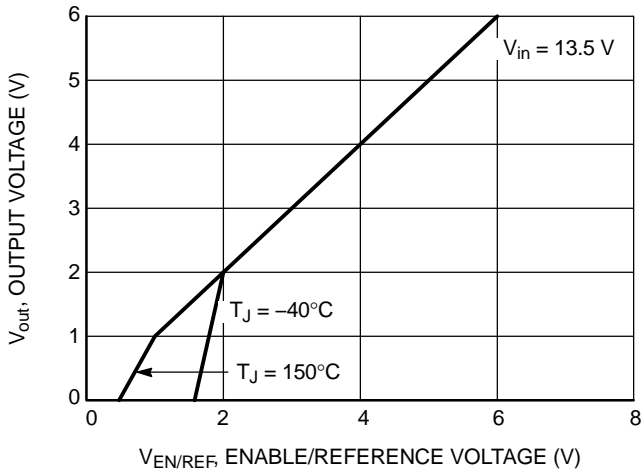
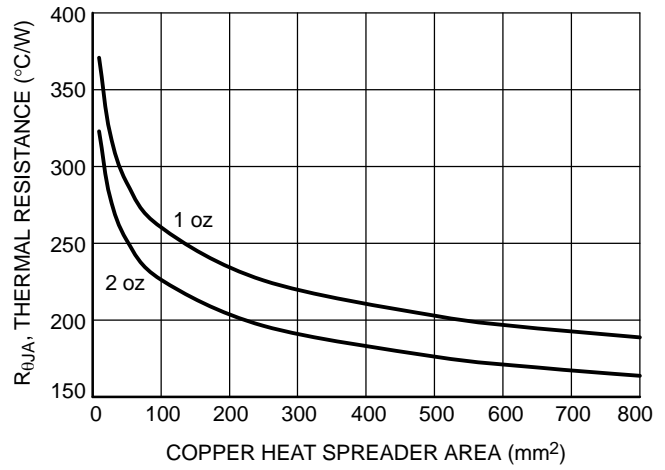

Figure 3. Output Voltage  $V_{out}$  vs. Reference Voltage  $V_{EN/REF}$
Figure 22. Thermal Resistance  $R_{\theta JA}$  vs. Copper Spreader Area
The NCV4250–2C tracking regulator is self–protected with internal thermal shutdown and internal current limit. Typical characteristics are shown in Figure 3 to Figure 22.
Since TJ is not recommended to exceed 150°C, then the NCV4250–2C soldered on 645 mm2, 1 oz copper area, FR4 can dissipate up to 0.65 W when the ambient temperature (TA) is 25°C. See Figure 22 for RthJA versus PCB area. The power dissipated by the NCV4250–2C can be calculated from the following equations: